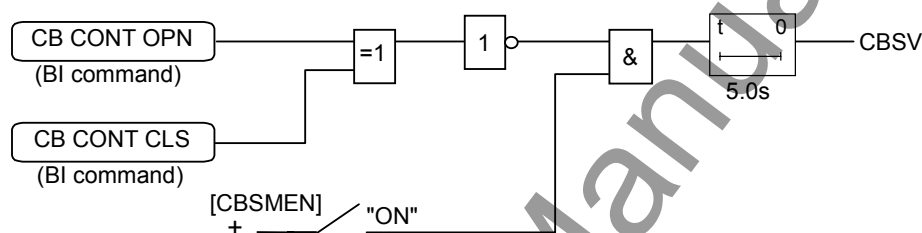

Figure 3.3.4 CB State Monitoring Scheme Logic
Circuit breaker state monitoring is provided for checking the health of circuit breaker (CB). If two binary inputs are programmed to the functions 'CB OPEN' and 'CB CLOSED', then the CB state monitoring function becomes active. In normal circumstances these inputs are in opposite states. Figure 3.3.4 shows the scheme logic. If both show the same state during five seconds, then a CB state alarm CBSV operates and "Err:CB" and "CB err" are displayed in LCD message and event record message respectively.